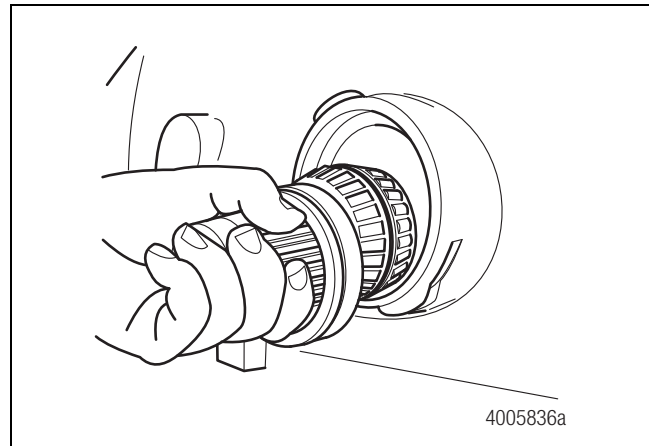

Figure 5.6
5. Install the output shaft and spacer ring. Figure 5.6.